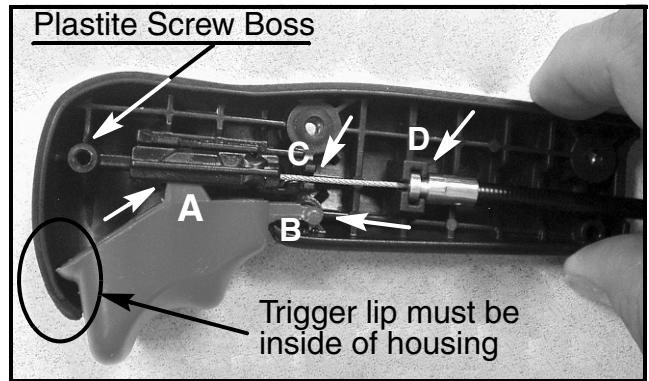

FIGURE 5
11. Install the trigger cable with plunger into the RH housing as shown in Figure 5.
12. In the RH housing, install the trigger lever into the trigger tab slot in the plunger (A), the trigger lever's pivot pin into the trigger pivot pin boss (B) and the cable in the cable guide (C).
NOTE: Ensure that the cable's end fitting is securely in the RH housing retainer socket. See Figure 5, Item D.
NOTE: Check the subassembly against Figure 5 before proceeding to the next step. (Subassembly is shown without grease for clarity)